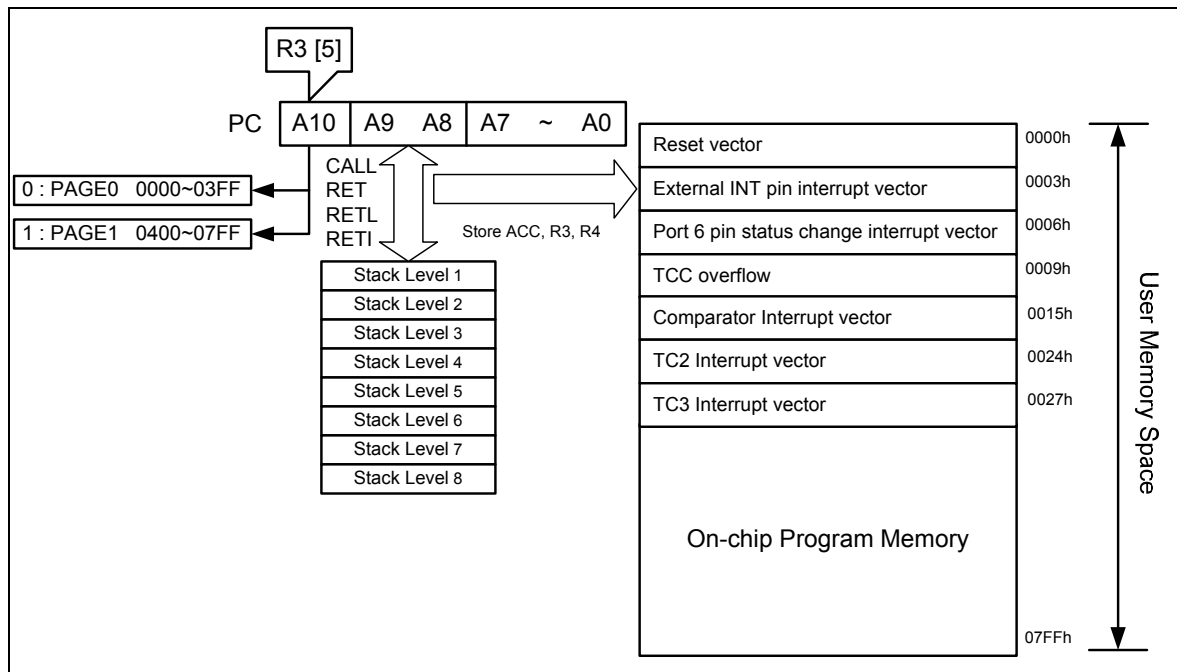

Figure 6-1 Program Counter Organization
- Depending on the device type, R2 and hardware stack are 11-bit wide. The structure is depicted in Figure 6-1 below.